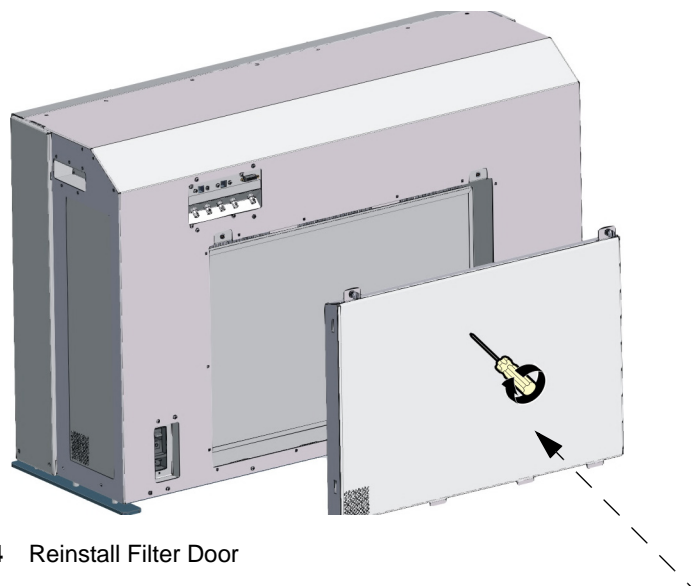

Figure A-4 Reinstall Filter Door
6. Using both hands, insert the filter door into the PRM-4200 rear panel, then use a Phillips screwdriver to tighten the two retaining screws, as shown in Figure A-4.